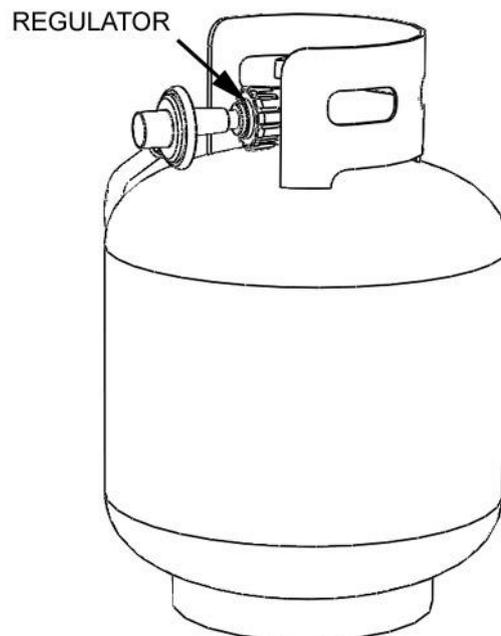

Figure 6
7. Connect the regulator to the propane cylinder by screwing the regulator clockwise to attach. See Figure 6. Make sure that the hose is routed carefully to avoid a tripping hazard. The cylinder must be secured to prevent tipping or falling over.